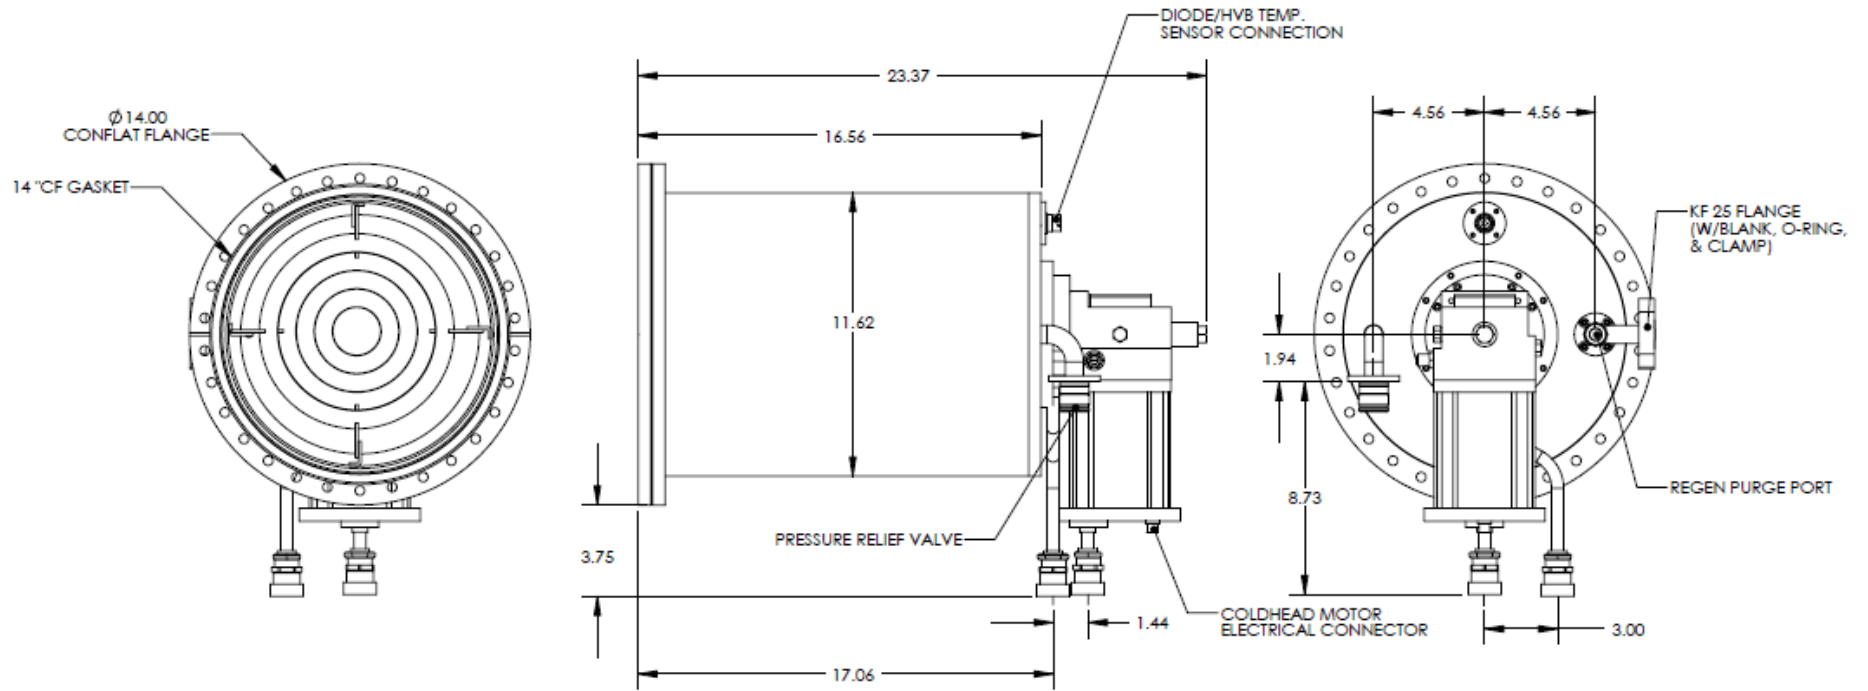
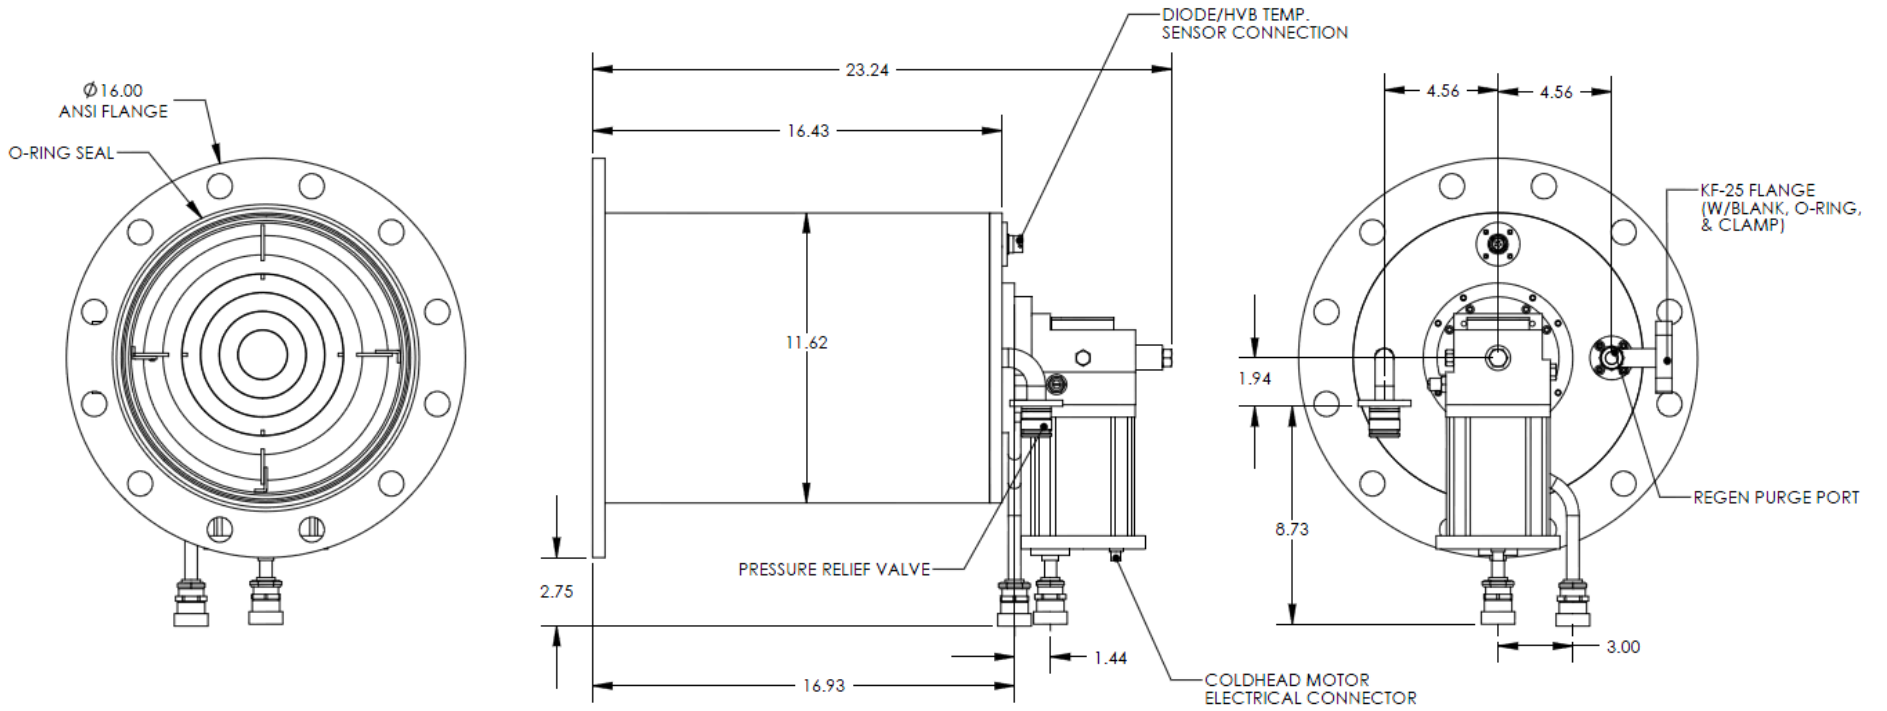

Figure 1 – Cryo-Plex 10 Cryopump with CF Inlet Dimensions
Figure 2 – Cryo-Plex 10 Cryopump with ANSI Flange Dimension
**Figure 1** and **Figure 2**, are typically used in the following applications:
The Cryo-Plex 10 cryopump specifications are listed in Table 4-1. **Figure 1** and **Figure 2** shows the Cryo-Plex 10 cryopump dimensions.